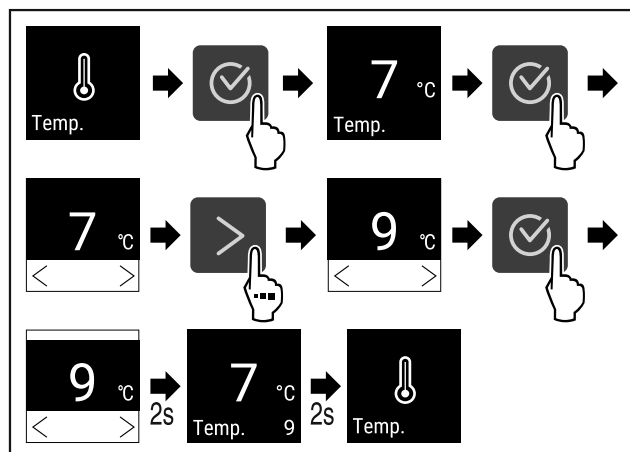

Fig. 67 Changing temperature from 7°C to 9°C
- ▶ Complete steps (see Fig. 67) .